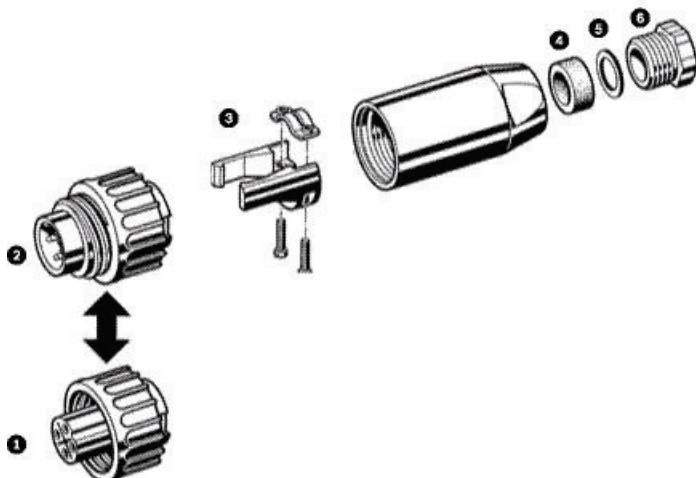

Figure 6.1 Mating connector 4-pin assembly
2. Insert the power cord through the back shell assembly and strain relief. See *Figure 6.1*.
4. Connect the power input cable to the screw terminals on the provided mating connector. See *Figure 6.1* and *Table 6.1*.